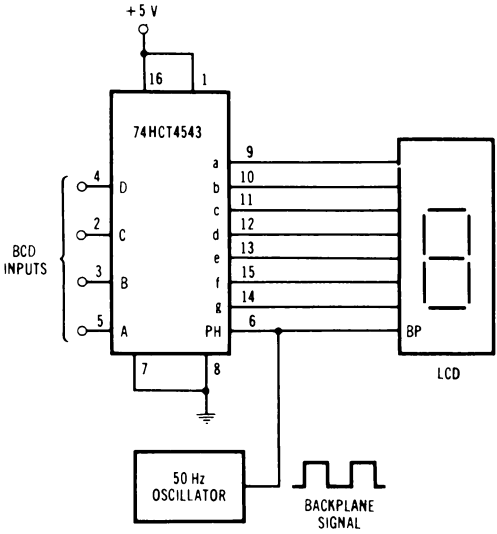

Fig. 8-18. Using a 74HCT4543 decoder/driver for liquid-crystal displays.
A 74HCT4543 decoder/driver can also be used to drive LCDs, but without the negative supply voltage. Fig. 8-18 shows the connections, when a 50-Hz square-wave oscillator is connected to the Phase Input (PH) of the 74HCT4543 and the backplane of the LCD.